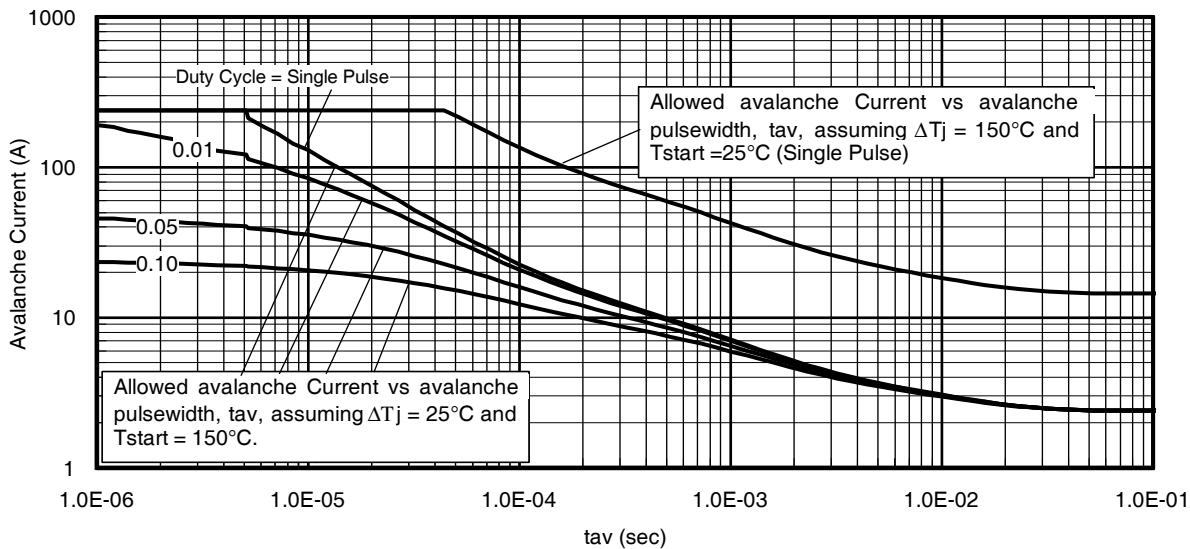

Fig 14. Typical Avalanche Current vs.Pulsewidth
| I _{AR} | Avalanche Current ② | See Fig. 14, 15, 22a, 22b | A |
Notes on Repetitive Avalanche Curves , Figures 14, 15:
7. ΔT = Allowable rise in junction temperature, not to exceed T_{jmax} (assumed as 25°C in Figure 14, 15).